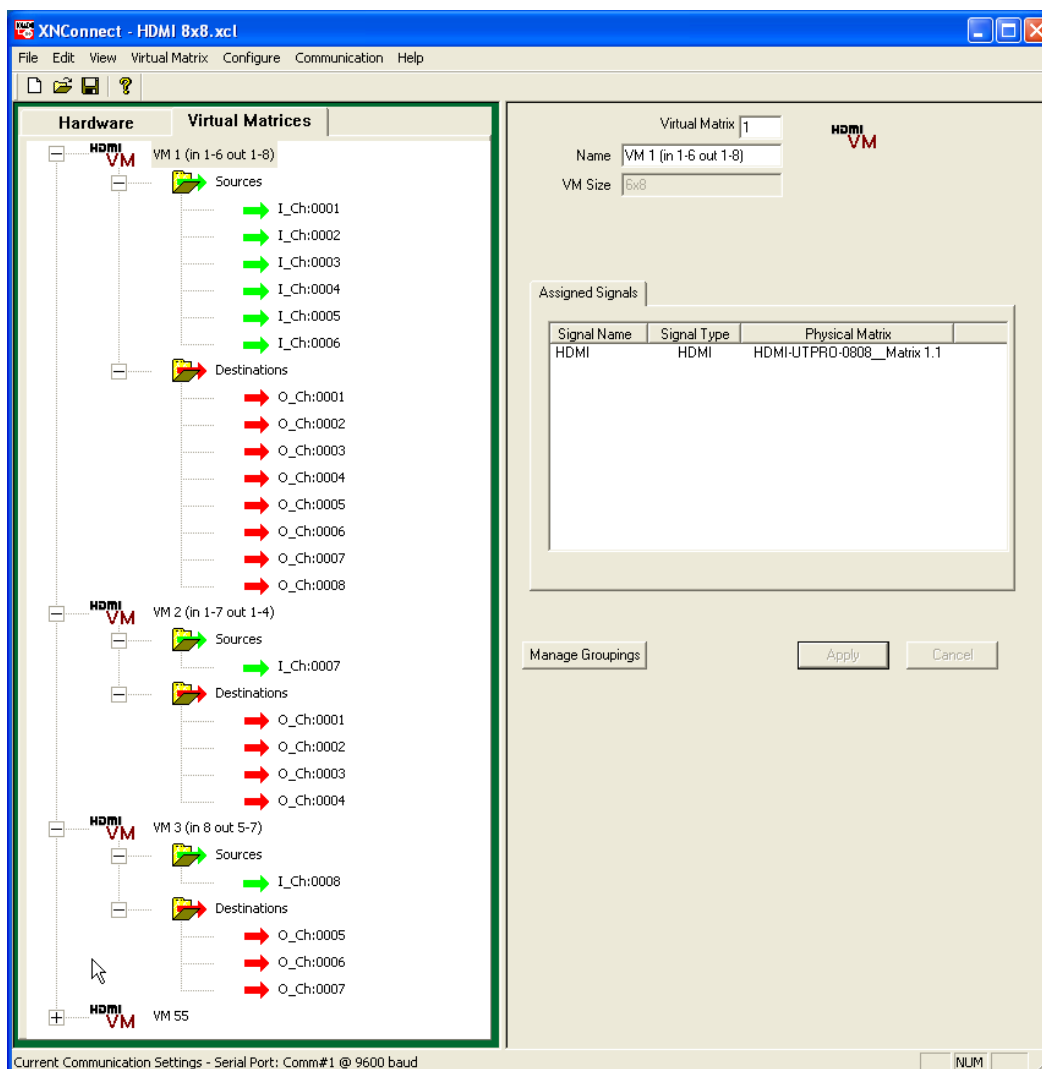

FIG. 79 Virtual Matrices created for example
22. Repeat Steps 3 through 21 for VM 2 and again for VM 3. See FIG. 79 on the next page for results.
The three VMs created for the example on page 127 using the previous procedure are illustrated in FIG. 79. (Note that VM 55 at the bottom of the VM list was the original VM 0 discovered on the system and renamed for possible reuse later.)